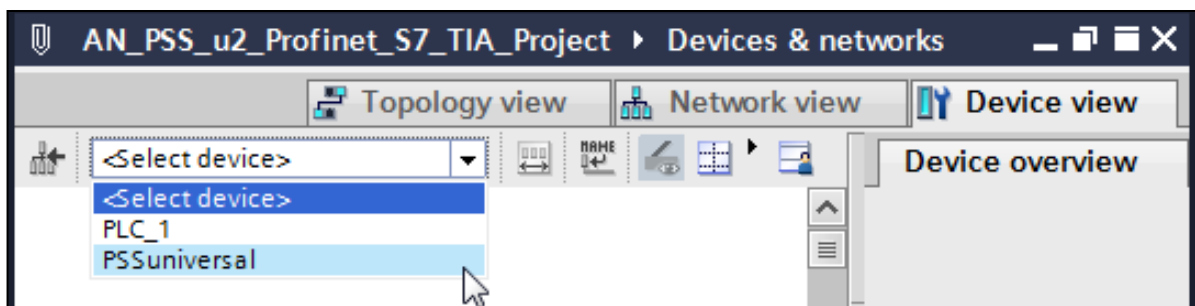

Figure 35: TIA – Switch to the Device overview of the I/O system in the “Device view”
- ▶ Switch to "Device view" (if not previously selected) and select the device 'PSSUniversal' (see Figure 35 [27]).